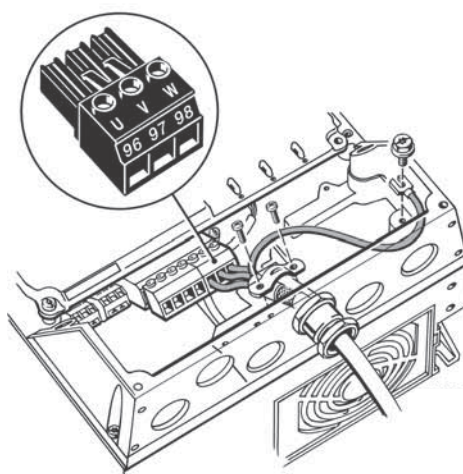

Fig. 13 Motor connection, A5
1. Connect the earth conductor to terminal 99 (PE). See fig. 13.
2. Connect the motor conductors to terminals 96 (U), 97 (V), 98 (W) of the motor plug.